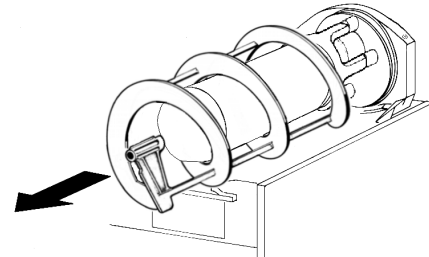
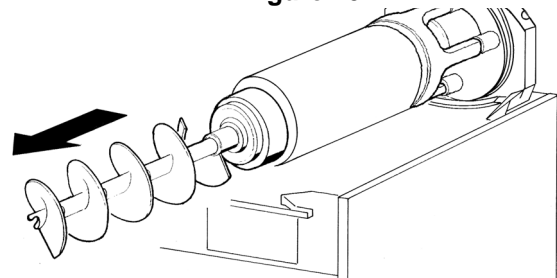

figure 10
figure 11
- 3 - Slide the outer spiral out (see figure 10) and then the inside auger (see figure 11).